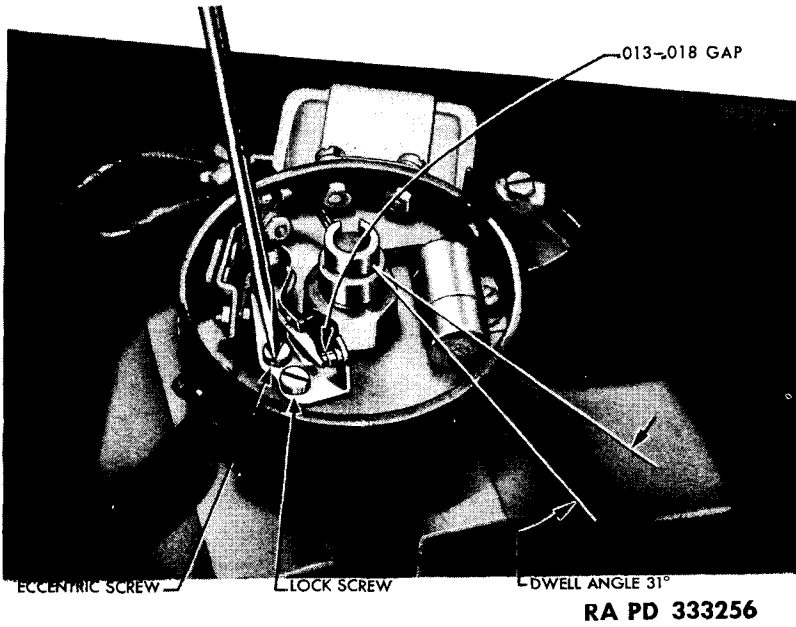

Figure 50 — Adjusting Contact Point Gap
(4) Oxidized points which have a blue or black scale usually do not require replacement, but the scale must be cleaned off. Oxidized points are usually caused by a faulty coil or condenser. Replace these items if condition recurs frequently.
e. Adjusting Contact Point Gap. Turn distributor drive shaft until cam is holding points at widest opening. Loosen contact support lock screw with screwdriver and adjust point opening to a clearance of 0.013 to 0.018 inch (0.015 is ideal) by turning eccentric screw (fig. 50) with a screwdriver and checking clearance with feeler gages. Tighten lock screw with screwdriver. **CAUTION:** *Clearance should be rechecked after distributor support lock screw has been tightened to make sure points remained in adjustment.*